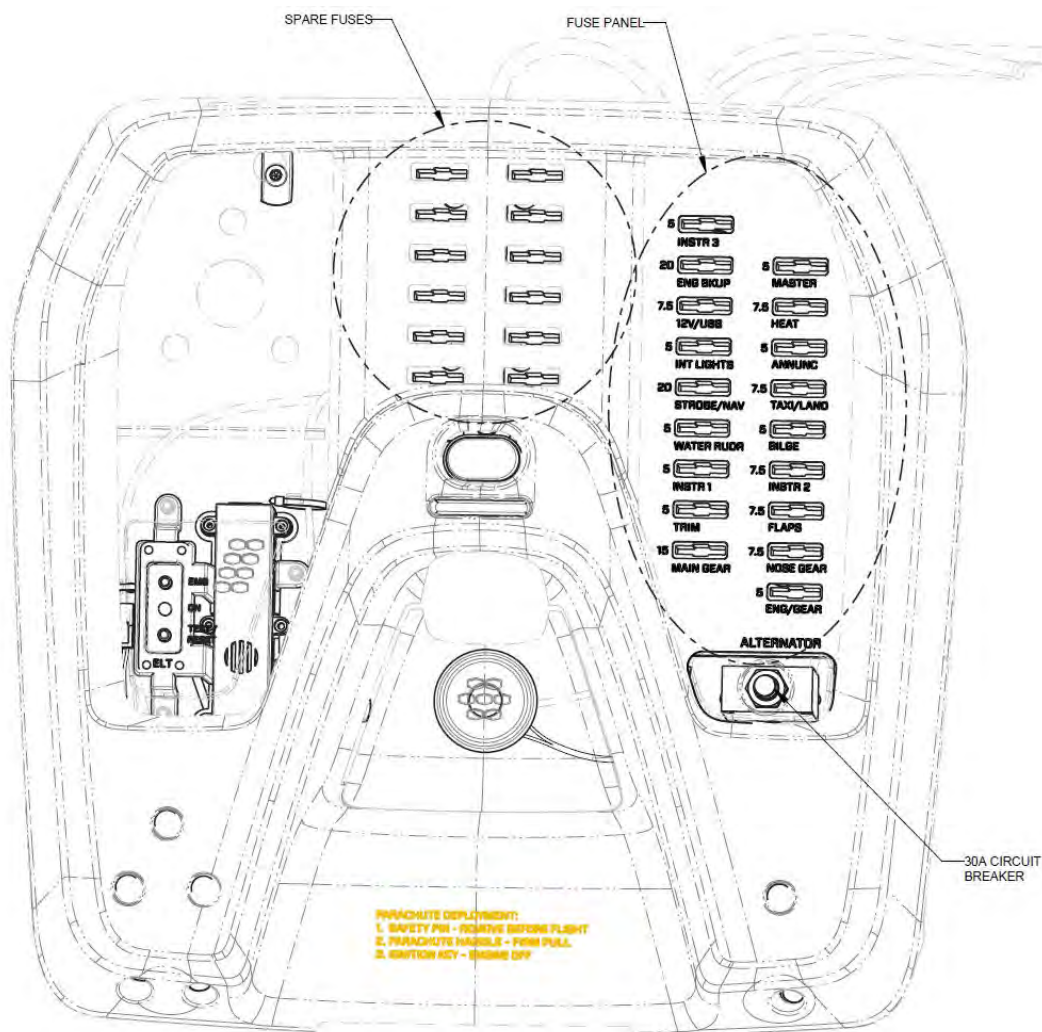

FIGURE 14-16
Use this procedure to replace any indicated fuse mounted in the overhead console shown in Figure 14-16.
3. Select the appropriate spare fuse. The spare fuses are located in the middle of the overhead console as shown in Figure 14-16. The fuse should match the blown fuse in both color and amp rating. Discard the blown fuse.